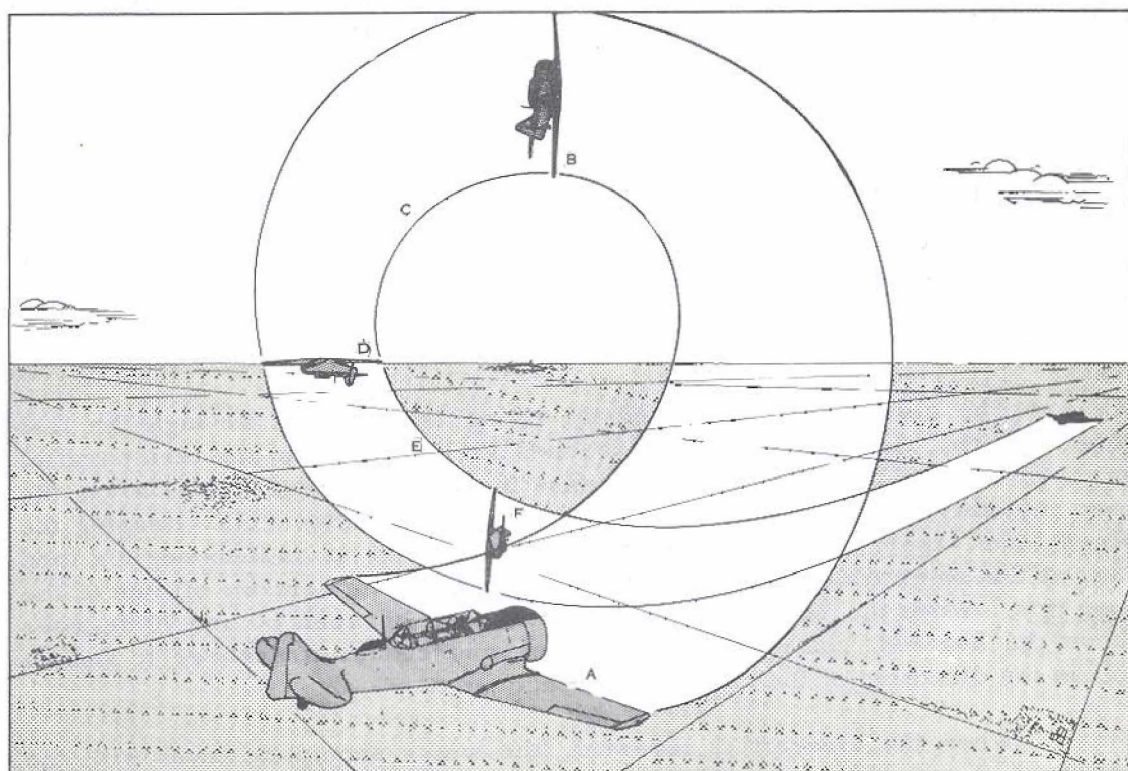

Figure 3: The Barrel Roll
(1) A barrel roll is a co-ordinated manoeuvre in which the nose of the aircraft describes a circle around a point on the horizon; the roll starts with the nose on the horizon, the wings level and the airspeed at 140K; it ends in the same way.
(2) While flying straight and level (Figure 3, Aircraft A), pick a reference point on the horizon 45 degrees off the nose, in the direction of the desired roll. Dive the aircraft straight ahead and, as the speed approaches 140K, ease back on the control column to raise the nose up through the horizon. As the nose passes through the horizon and the airspeed reaches 140K, blend in co-ordinated aileron and rudder pressures to keep the nose rising, and to bank the wings in the direction of the reference point.
(3) At 90 degrees of roll when the wings are vertical (Aircraft B), the fore and aft axis of the aircraft should be at an angle of approximately 45 degrees to the horizon, giving a nose-high attitude. The roll is continued through Point C, where some of the back pressure should be released, while some aileron pressure is being applied to maintain the constant rate of roll. The rudder pressure should be regulated to keep the aircraft in co-ordinated flight. At the horizon the aircraft should be completely inverted, and you should start to decrease rudder pressure in the direction of the roll.